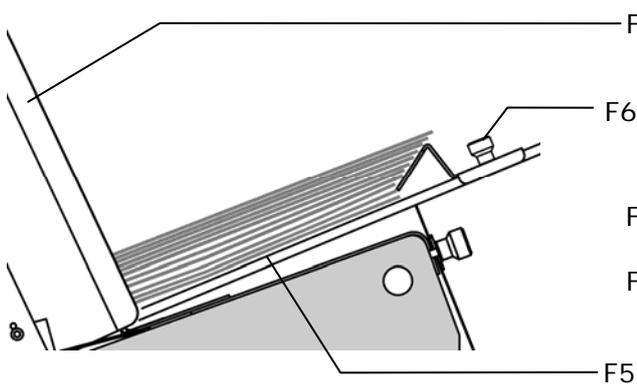

Figure 13: Adjusting the paper feed ramp and the slide, side view
Put the feed ramp (F5) to a low and centered position. Insert a small stack of paper as shown in Figure 13.
- Adjust the slide (F6) as shown in Figure 13. The lowermost two or three media should fall loosely out of the stack, so they can be easily gripped by the feed roller.